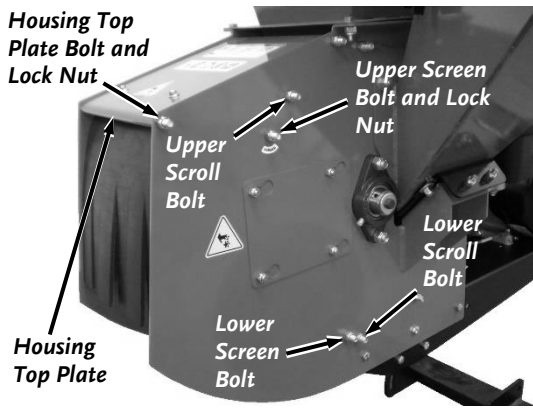

Figure 32
2. Remove the Bolt and Lock Nut securing the Housing Top Plate using two 9/16" Wrenches (**Figure 32**).
19. Reposition the Housing Top Plate and secure Bolt and Lock Nut (**Figure 32**).